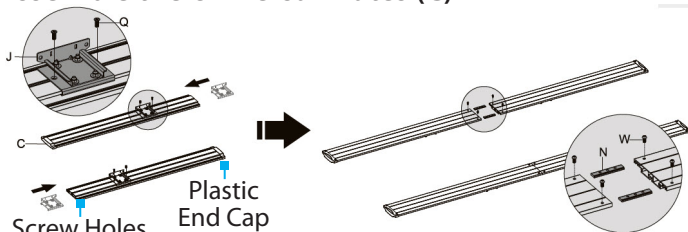

Figure 6
1. Place the **Universal Plates (C)** next to one another on a clean and flat surface with the **Plastic End Caps** facing the outer edges and the **Screw Holes** facing down. (Figure 6)
2. Slide one **Connector (J)** into the **Universal Plate (C)**, align the screw holes and secure with screws.